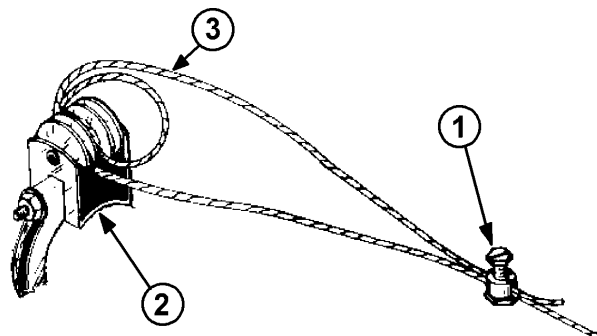

Figure 30. Anti-Roost Cable at the Hopper
2. Start at the hopper end of the line and form a loop around the anti-roost bracket. For best results, make a double loop around the anti-roost insulator in the center groove of the insulator and fasten with a 1/16" cable clamp as shown in Figure 30.